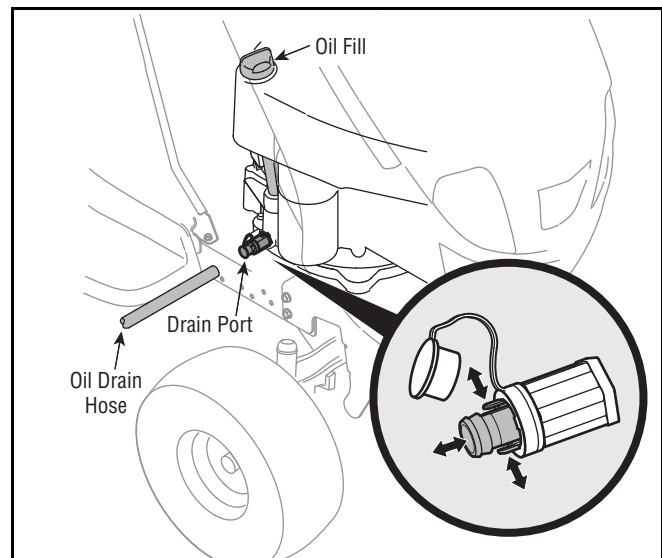

Figure 15
- Pop open the protective cap on the end of the oil drain valve to expose the oil drain port. See Figure 15.
- Pinch the tabs on the oil drain valve, then pull outward to begin draining oil. See Figure 15 .